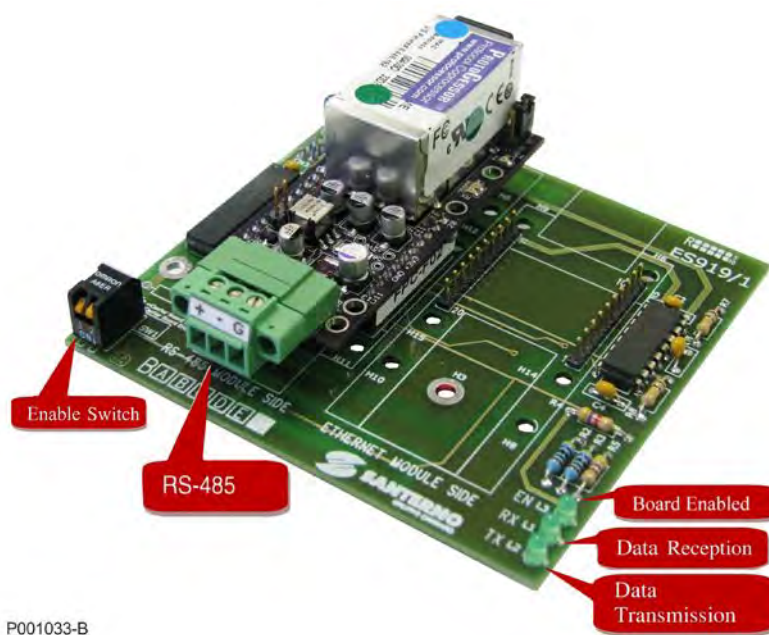

Figure 155: ES919 Board for BACnet/RS485
12. Mount the BACnet device in the way shown in Figure 155.